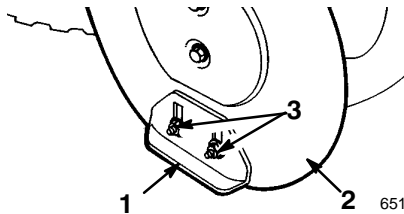

Figure 28
4. Loosen the four flange nuts that secure both skids to the auger side plates (Fig. 28) until the skids can slide up and down easily.
3. Tighten the four flange nuts that secure both skids to the auger side plates (Fig. 28).